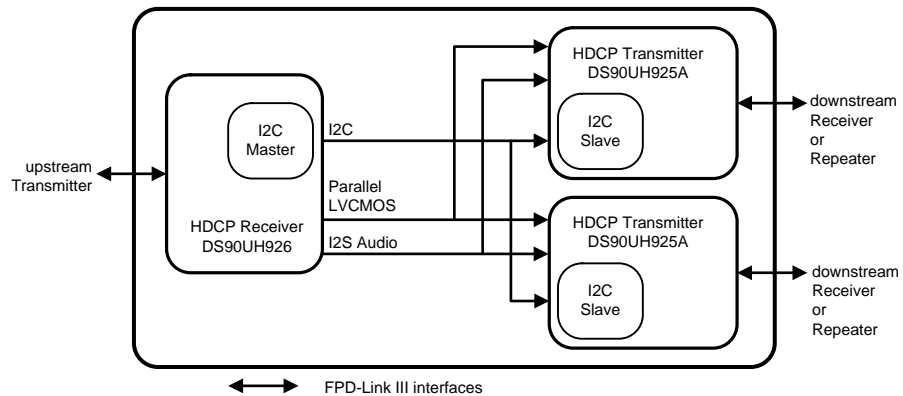

**Figure 17. HDCP Maximum Repeater Application**
In HDCP repeater application, In this document, the DS90UH925AQ is referred to as the HDCP Transmitter or transmit port (TX), and the DS90UH926Q is referred to as the HDCP Receiver (RX). Figure 17 shows the maximum configuration supported for HDCP Repeater implementations using the DS90UH925AQ (TX) and DS90UH926Q (RX). Two levels of HDCP Repeaters are supported with a maximum of three HDCP Transmitters per HDCP Receiver.